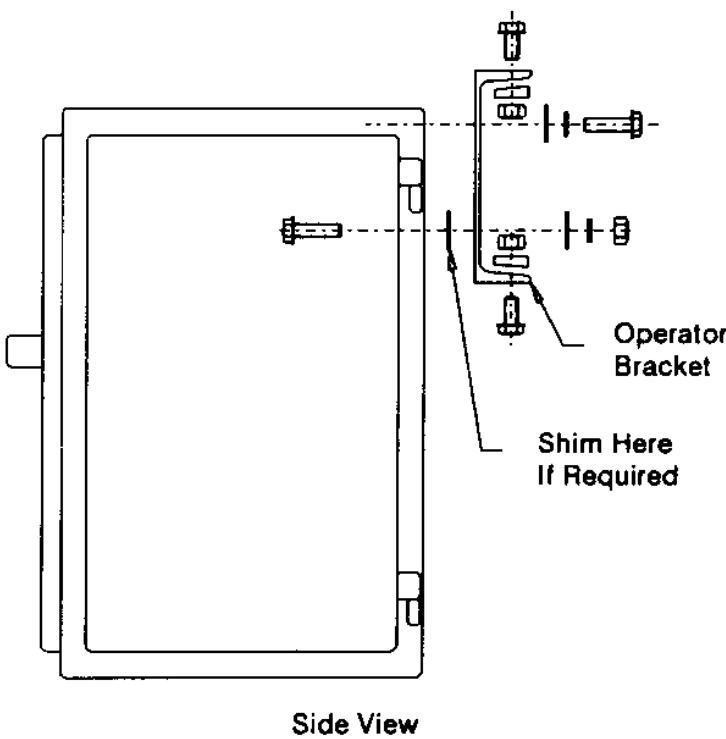

Figure 26 -- Motor Operator Mounting
6. The motor operator is bolted to the column leg as shown in Figure 26 by using kit #4. Proper lifting method is shown in the Handling section. Further details of the motor operator are covered in the Operation Section of this manual. If unfamiliar with the Motor Operator, this section should be reviewed before proceeding.